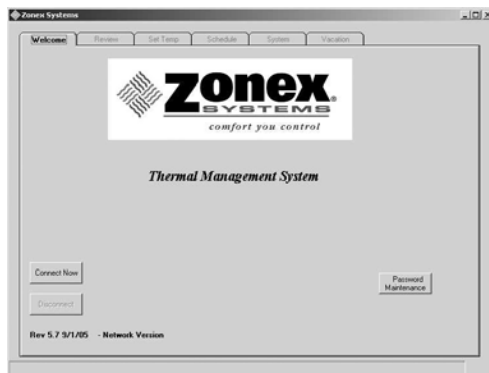

Fig. 6
1. Click on the **Connect Now** button from the WELCOME screen (see Fig. 6).